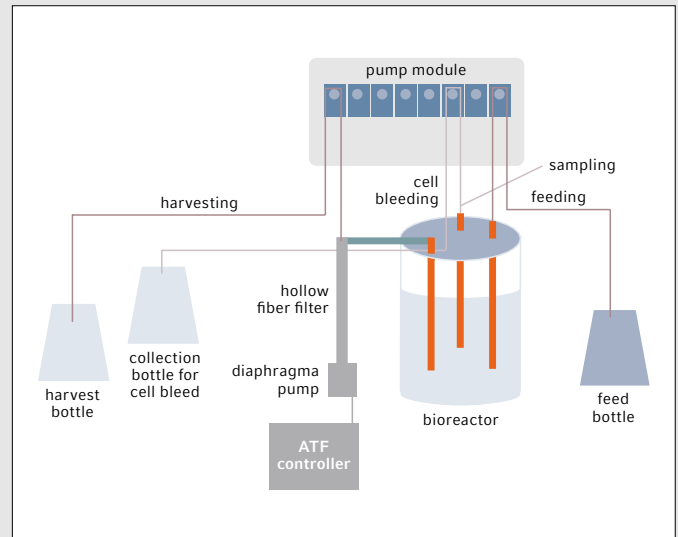

Fig. 2: Setup of the perfusion system. Please refer to Application Note 457 [1] for details
After removing the cell debris in the first centrifugation step, the supernatant is loaded onto a first discontinuous sucrose gradient (Fig. 1). Between the 15% and 50% sucrose phases, a fraction of microsomes is accumulated. This fraction is used for further purification by two steps of floating discontinuous sucrose gradients where the Golgi bodies accumulate between the 34% and 38% sucrose phase of the gradient (Fig. 2).
**Fig. 2:** Sub-fraction of the rice Golgi apparatus after multiple steps of discontinuous sucrose density gradient centrifugation. Golgi fraction between 34% and 38% sucrose solution indicated in red
The setup of the perfusion system is illustrated in Fig. 2. For cell retention, a hollow fiber filter Xampler® CFP-2-E-3MA microfiltration cartridge (Cytiva) was used. To use it in ATF (Alternating tangential flow filtration) mode, the hollow fiber filter was connected to an XCell® ATF 2 system (Repligen®). The bioreactor was equipped with dip tubes to add and remove culture medium and cell broth from the bioreactor through feed lines using the system's pumps. The feeding strategy in all perfusion runs aimed at keeping the concentration of lactate below 20 mM and the concentration of ammonium below 4 mM.